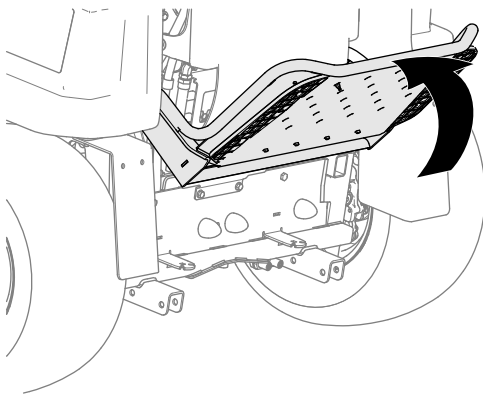

Figure 4
1. Raise the operator's platform (Figure 4).